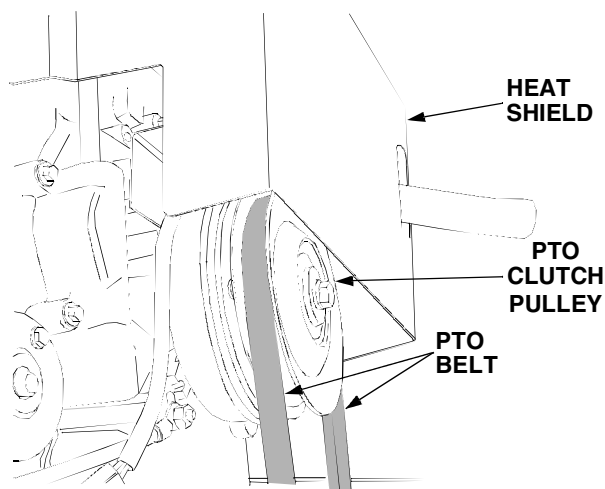

Figure 2-10
13. Loop the PTO belt with the narrow side of the 'V' belt inward; then maneuver the loop of the belt up between the front of the PTO pulley and the heat shield on the front of the engine, and place the belt into the groove of the PTO pulley. See Figure 2-10.